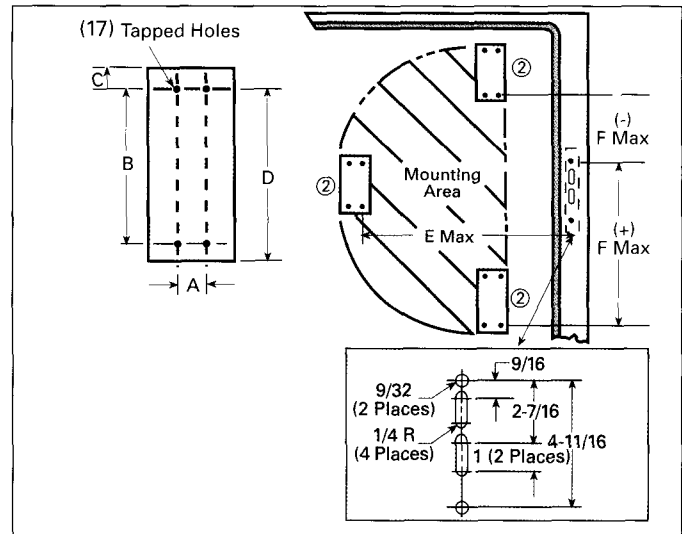
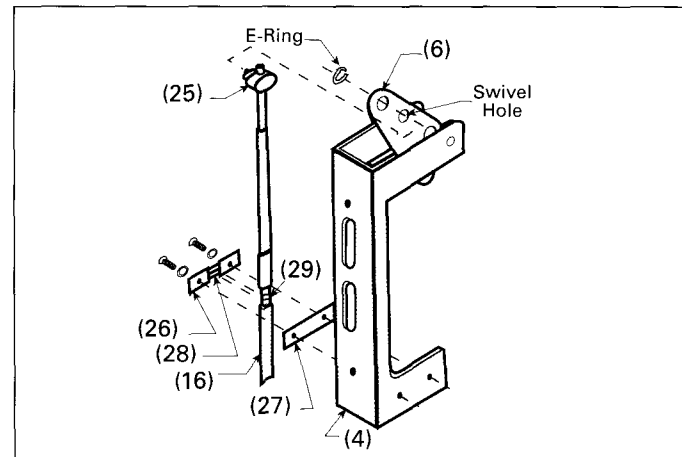

Figure 5
Figure 7
The circuit breaker can be mounted remotely from the handle within a range that is limited by the length of the operating cable (16) (Figure 7) and the depth of the enclosure. Table 2 and Figure 5 show the horizontal range **E** of the circuit breaker in 8 to 30" enclosures.
- Determine the desired circuit breaker mounting location using Tables 1, 2 and Figure 5.
- Drill and tap four mounting holes (17) in the enclosure back panel using dimensions **A** and **B** from Table 1.
- Remove the four terminal shield screws (18) and two terminal shields (19).
- Fasten circuit breaker to prepared mounting surface using four breaker mounting screws (20).
- A. To attach the operating cable (16) to the frame assembly (4), move the operating handle (2) to the ON position and attach the cable swivel (25) to the outer hole of the bell-crank (6). Secure the connection with an E Ring (Figure 7).
- B. Secure the cable (16) to the frame assembly (4) by placing it between the cable retainer clip (26) and the shim (27), secure with two #10-32 x 3/8" screws and lockwashers.
NOTE: Detent (28) in cable retainer must align with the groove (29) in the cable's metal fitting (Figure 7).